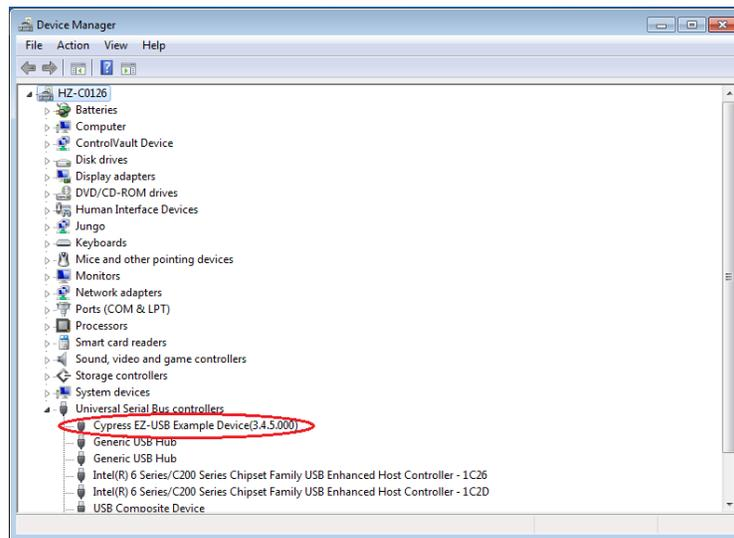

Figure 7: Communication Interface Recognized by Computer
2. After the communication interface is recognized by the computer (see Figure 7), locate the proper wires to connect the EVB to the EVHR1203 PMBUS Kit-01A communication interface.